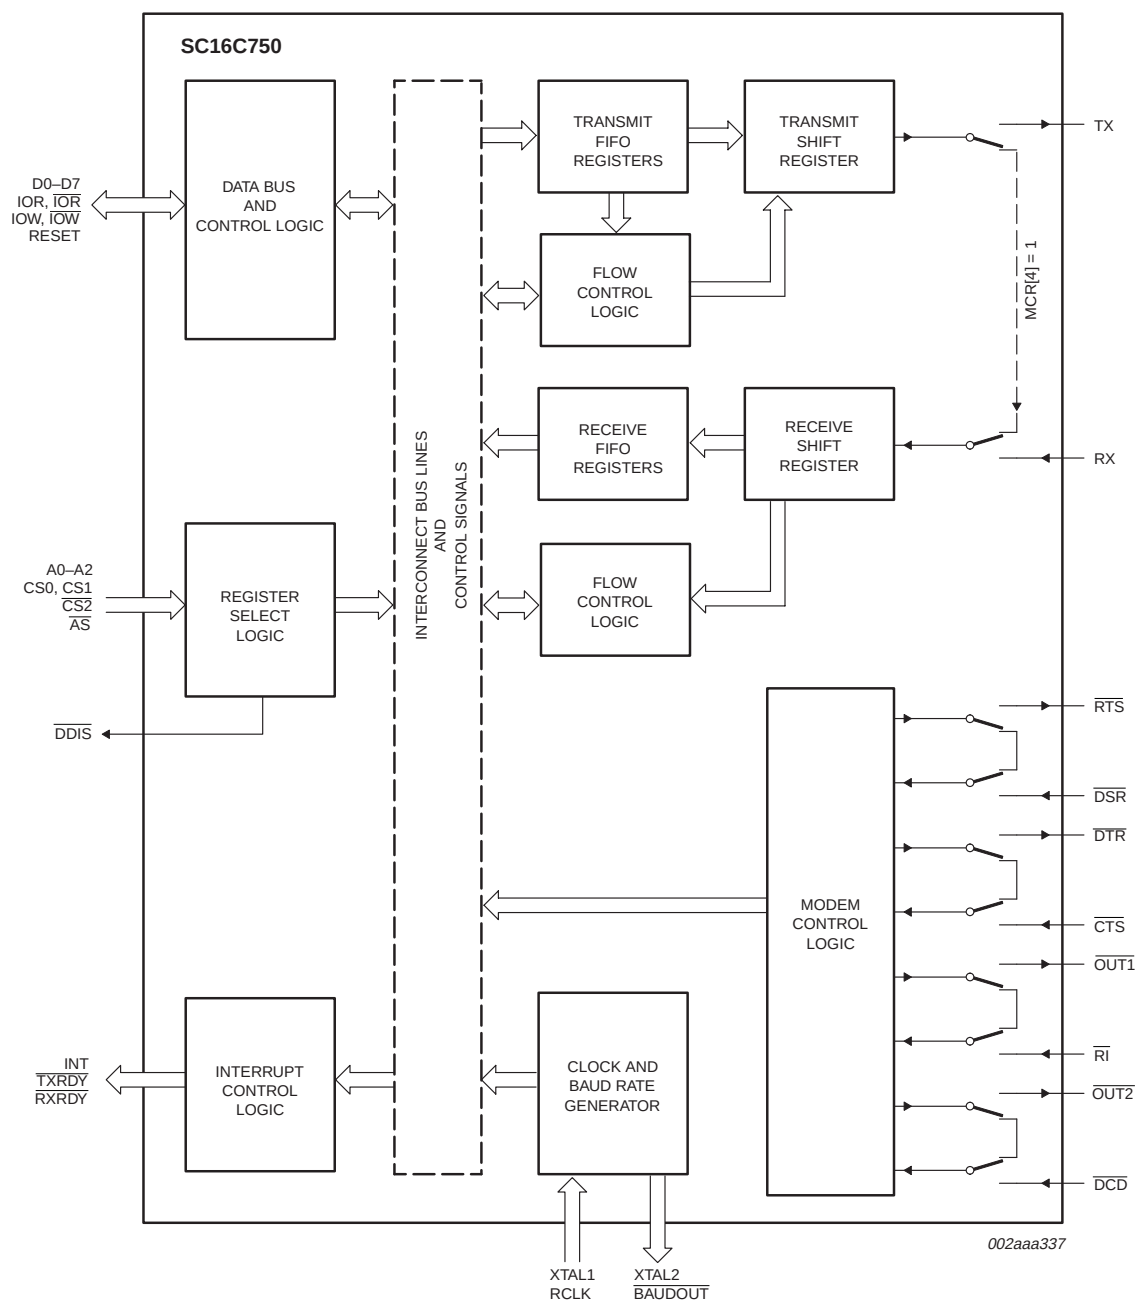

Fig 5. Internal loop-back mode diagram.
The internal loop-back capability allows on-board diagnostics. In the loop-back mode, the normal modem interface pins are disconnected and reconfigured for loop-back internally. MCR[0-3] register bits are used for controlling loop-back diagnostic testing. In the loop-back mode, OUT1 and OUT2 in the MCR register (bits 2-3) control the modem  $\overline{\text{RI}}$  and  $\overline{\text{DCD}}$  inputs, respectively. MCR signals  $\overline{\text{DTR}}$  and  $\overline{\text{RTS}}$  (bits 0-1) are used to control the modem CTS and  $\overline{\text{DSR}}$  inputs, respectively. The transmitter output (TX) and the receiver input (RX) are disconnected from their associated interface pins, and instead are connected together internally (see Figure 5). The CTS,  $\overline{\text{DSR}}$ , DCD, and  $\overline{\text{RI}}$  are disconnected from their normal modem control input pins, and instead are connected internally to  $\overline{\text{DTR}}$ ,  $\overline{\text{RTS}}$ , OUT1 and OUT2. Loop-back test data is entered into the transmit holding register via the user data bus interface, D0-D7. The transmit UART serializes the data and passes the serial data to the receive UART via the internal loop-back connection. The receive UART converts the serial data back into parallel data that is then made available at the user data interface D0-D7. The user optionally compares the received data to the initial transmitted data for verifying error-free operation of the UART TX/RX circuits.